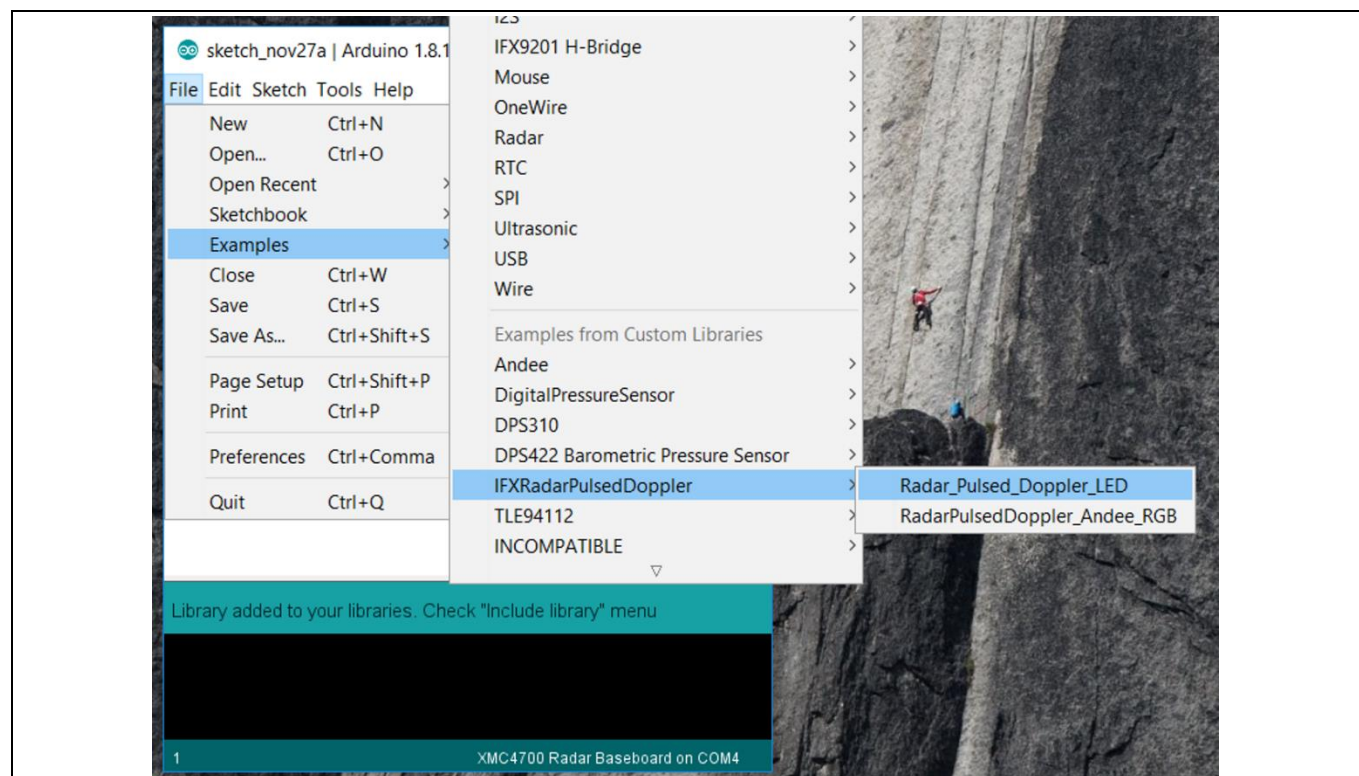
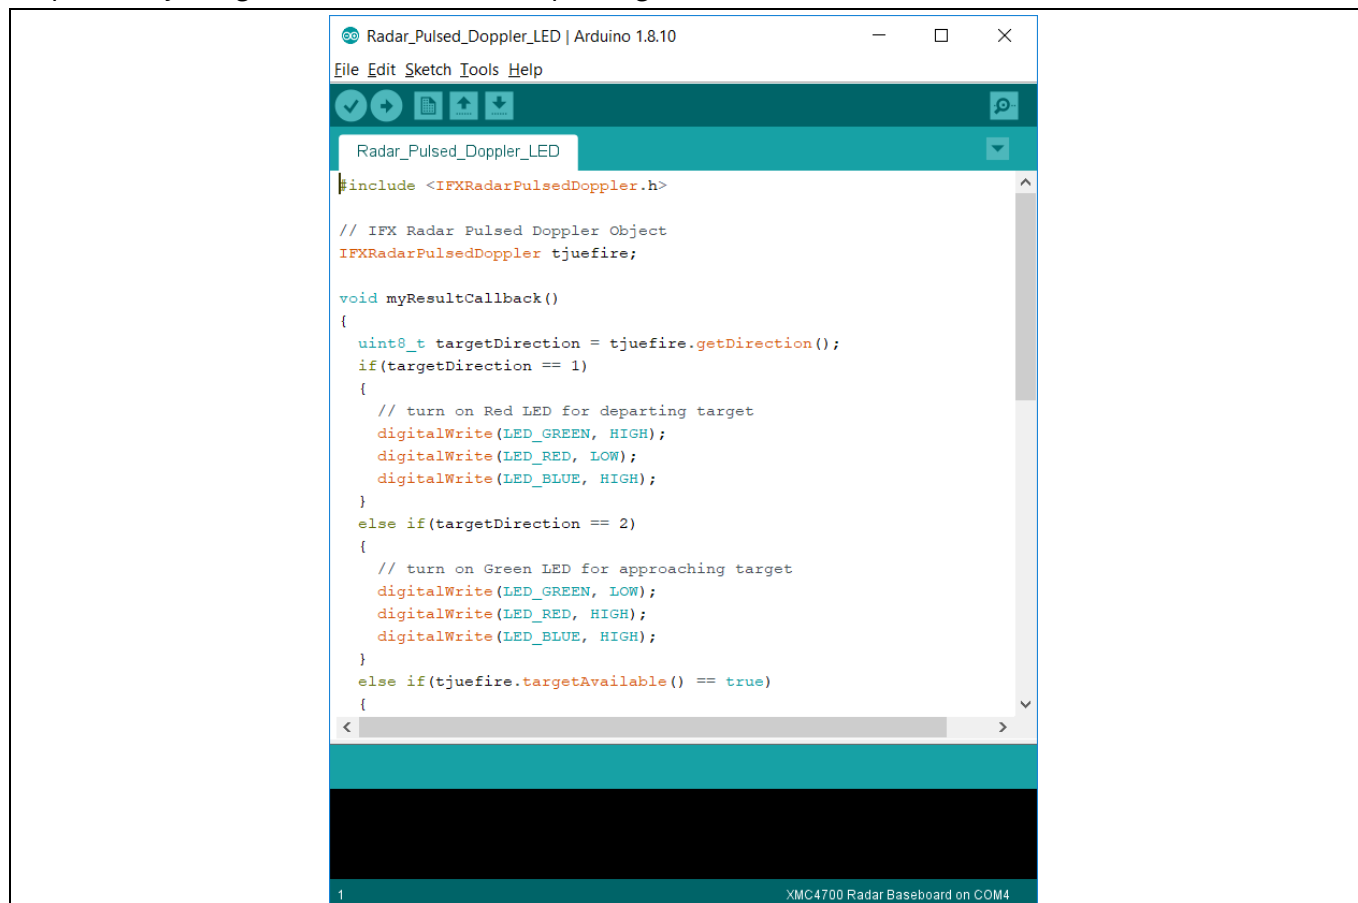

Figure 16 Accessing example sketches from this library
Figure 17 Example sketch: Radar_Pulsed_Doppler_LED
Two Arduino sketch examples are provided in the current library release. These examples can be accessed from *File > Examples > IFXRadarPulsedDoppler* (Figure 16). **Error! Reference source not found.** provides a brief description of these examples.
1. In Arduino IDE, navigate to *File > Examples > IFXRadarPulsedDoppler > Radar_Pulsed_Doppler_LED* (as shown previously in Figure 16). The sketch will open (Figure 17).